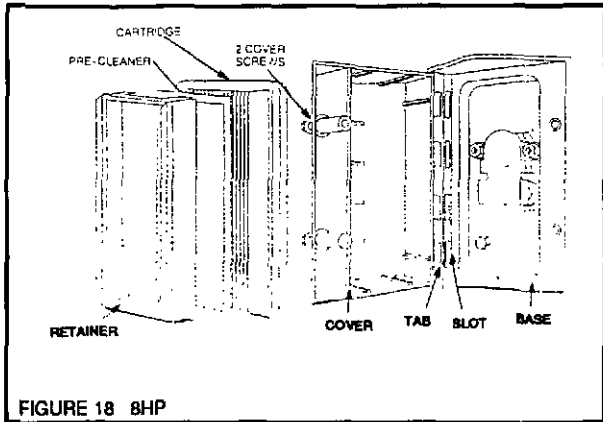

FIGURE 18 8HP
1. Loosen screws and lift cover as illustrated. (Fig. 18, 18A, 18B and 19).